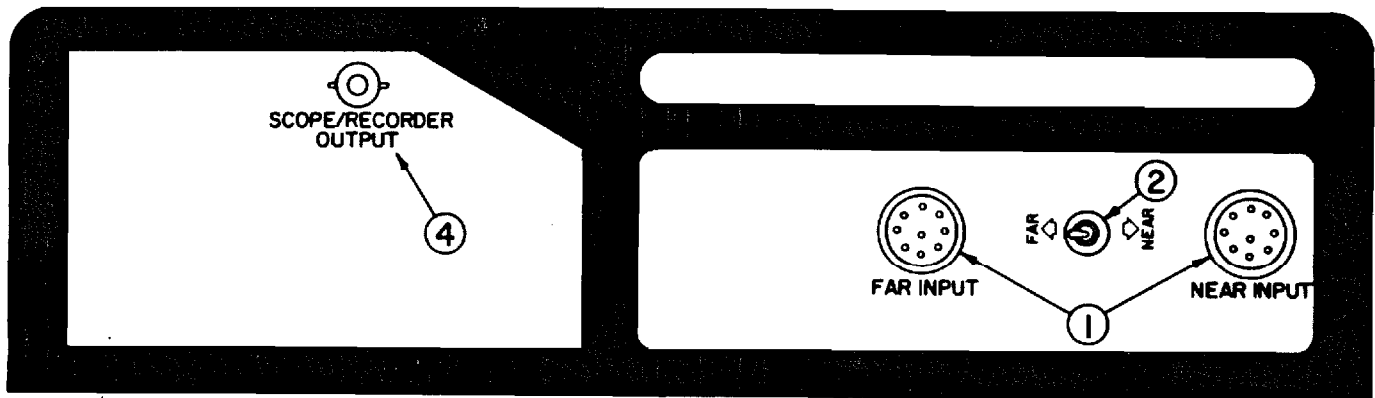

FIGURE 2-2 LEFT-HAND SIDE PANEL DETAILS
1) VIBRATION INPUT CABLE CONNECTORS (Fig. 2-2, Ref. 1)
2) PICKUP SELECTOR (Fig. 2-2, Ref. 2)
3) SCOPE/RECORDER OUTPUT CONNECTOR (Fig. 2-2, Ref. 4)